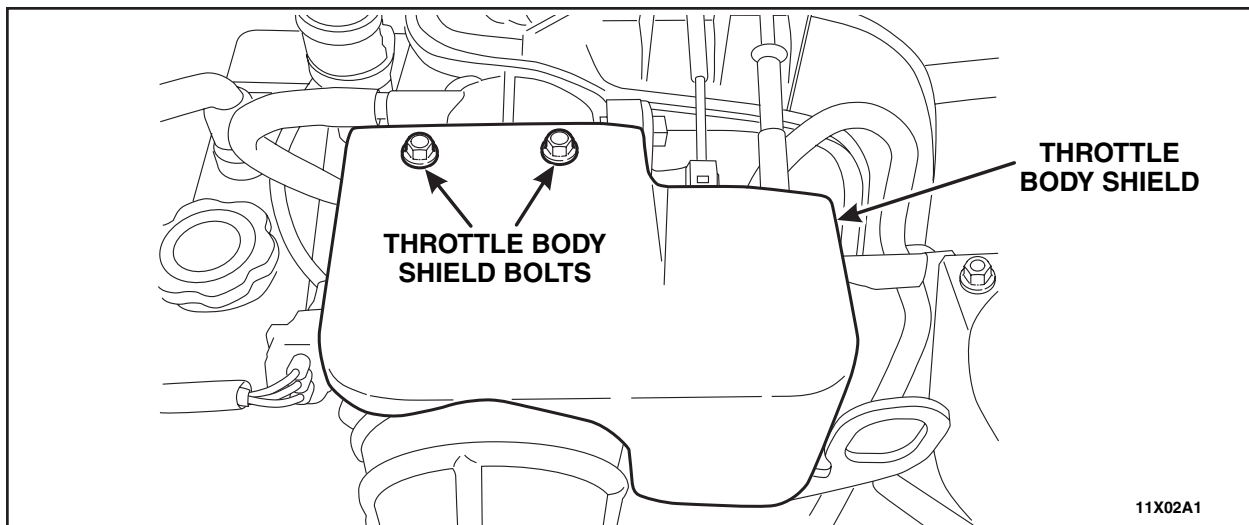

FIGURE 1
1. Remove the 2 bolts and the throttle body shield. See Figure 1
5. If there is **not** any wear on the fuel line caused by contact with the throttle body shield, install the throttle body shield. See Figure 1.
10. Install the throttle body shield. See Figure 1.